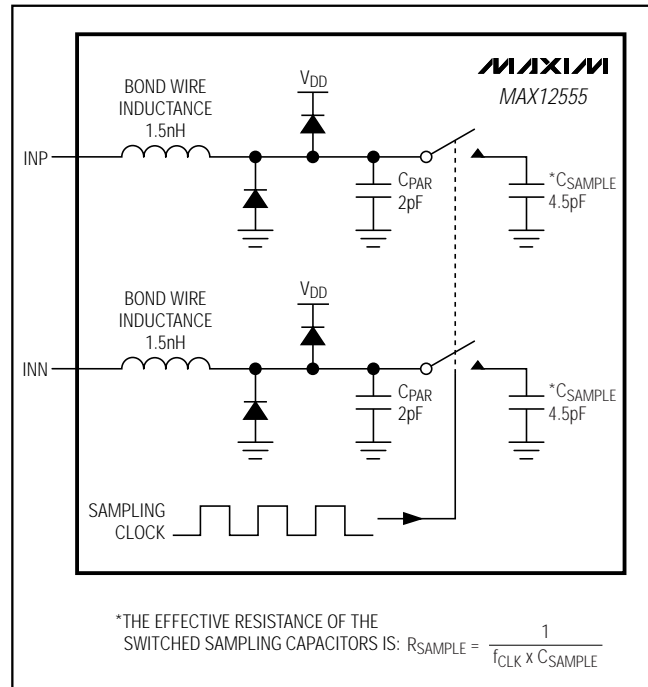
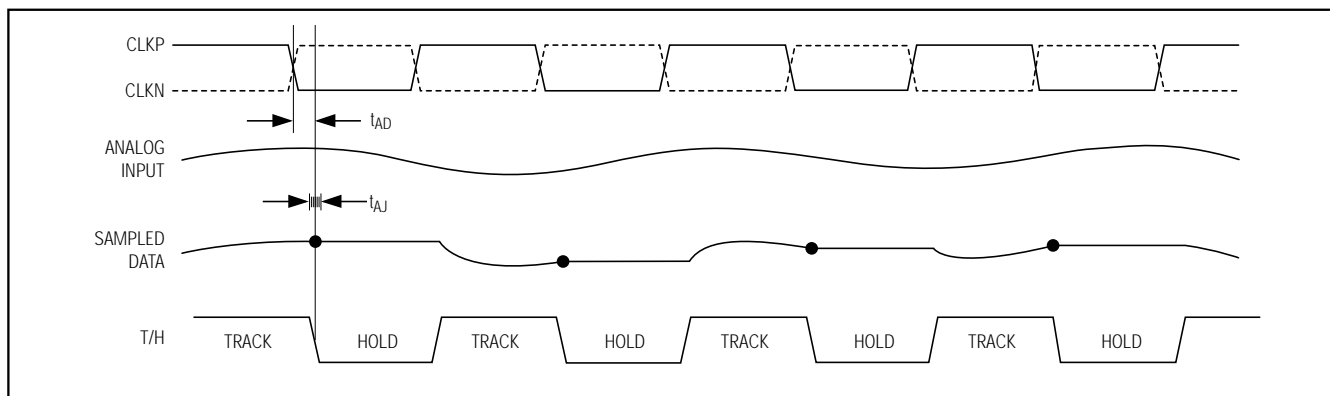

Figure 3. Simplified Input T/H Circuit
Figure 4. T/H Aperture Timing
Figure 3 displays a simplified functional diagram of the input T/H circuit. This input T/H circuit allows for high analog input frequencies of 175MHz and beyond and supports a common-mode input voltage of $V_{DD} / 2 \pm 0.5V$.
The MAX12555 sampling clock controls the ADC's switched-capacitor T/H architecture (Figure 3) allowing the analog input signal to be stored as a charge on the sampling capacitors. These switches are closed (track) when the sampling clock is high and open (hold) when the sampling clock is low (Figure 4). The analog input signal source must be capable of providing the dynamic current necessary to charge and discharge the sampling capacitors. To avoid signal degradation, these
- INP, INN analog inputs are disconnected from the internal input amplifier (Figure 3).